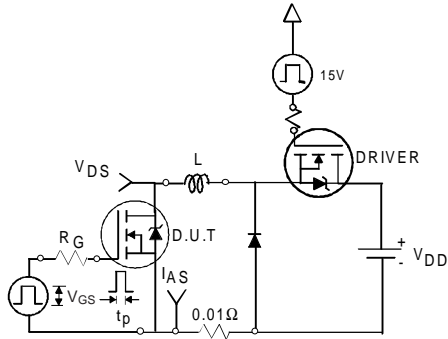

Fig 12a. Unclamped Inductive Test Circuit
| I _{AR} | Avalanche Current① | See Fig.12a, 12b, 15, 16 | A |
- ④ Pulse width ≤ 400μs; duty cycle ≤ 2%.
- ⑤ C_{oss eff.} is a fixed capacitance that gives the same charging time as C_{oss} while V_{DS} is rising from 0 to 80% V_{DSS}.
- ⑥ Calculated continuous current based on maximum allowable junction temperature. Package limitation current is 75A.
- ⑦ Limited by T_{Jmax}, see Fig.12a, 12b, 15, 16 for typical repetitive avalanche performance.
3. Equation below based on circuit and waveforms shown in Figures 12a, 12b.